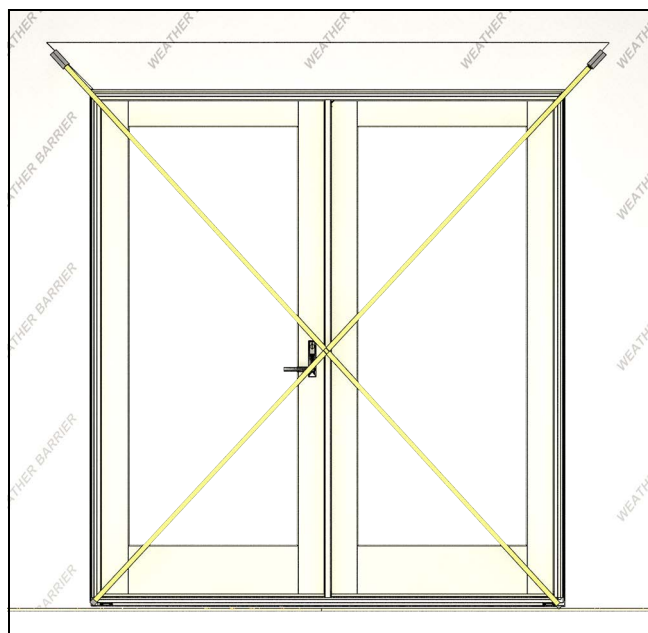

Figure 14
6. Check diagonal measurements for the entire frame. Adjust as necessary by applying shims to the corners 6" (152) from the sill and head jamb. See Figure 14.